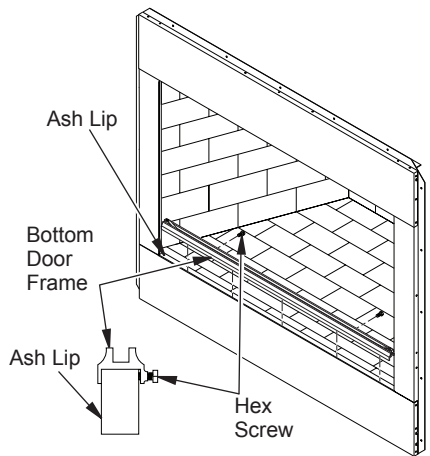

Figure 27 - Installing Bottom Door Frame
3. Place bottom door frame on top of ash lip at front of fireplace (see Figure 27).
4. Secure bottom door frame to brick with two hex screws provided as shown in Figure 27 using a 7/16" open end or adjustable wrench.